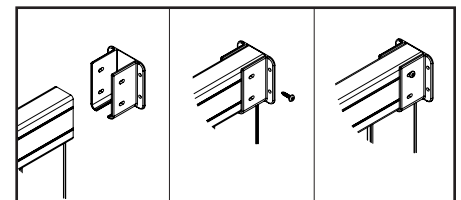

Figure 4
- Prepare the pre-assembled fence panels by sliding the mounting brackets onto the rails with the open space to the top. Slide the bracket fully onto the rail. While holding the bracket in place, install one attaching screw into one of the slotted holes. Place the screw at the end of the slot closest to the mounting face of the bracket, as shown in Figure 4. This will temporarily hold the bracket to the panel when you place the complete panel between the posts. Do this for all brackets on each fence panel prior to installation. Later, you will be able to slide the bracket outward to get a perfect fit if your post opening is slightly wider than the suggested dimension.